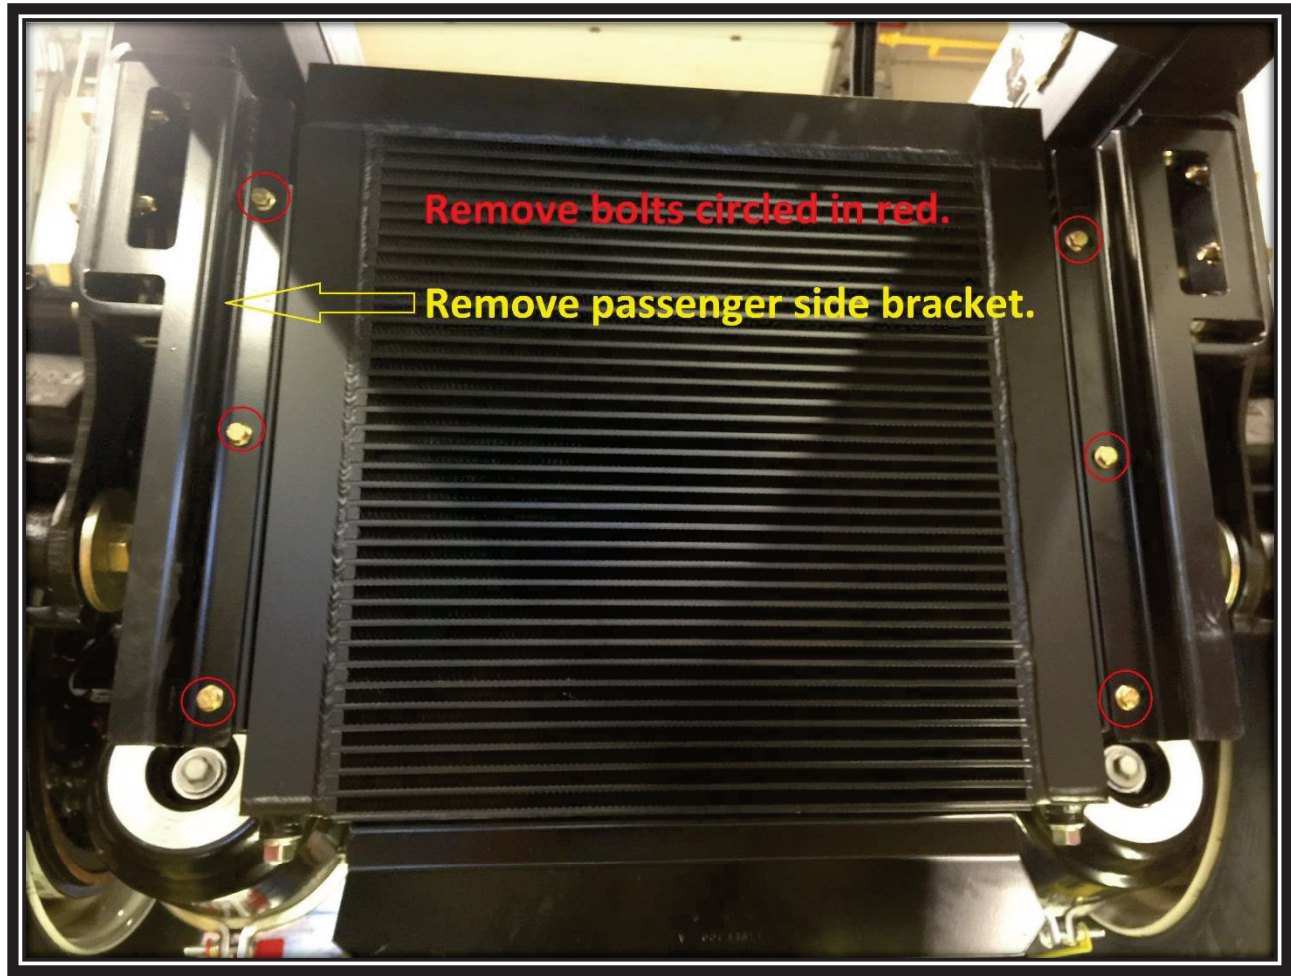

FIG. 4-1
2. Remove passenger side hydraulic oil cooler mount bracket. Retain fasteners for reuse. Refer to FIG. 4-1.